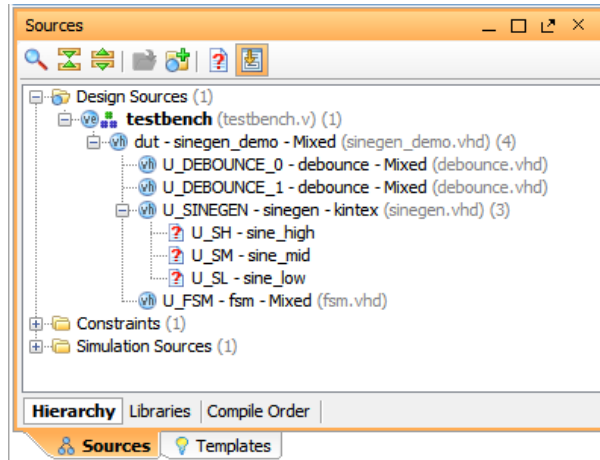

Figure 7: Sources window
1. Click the '+' character in the Sources window to **expand** the **folders** as shown in Figure 7.